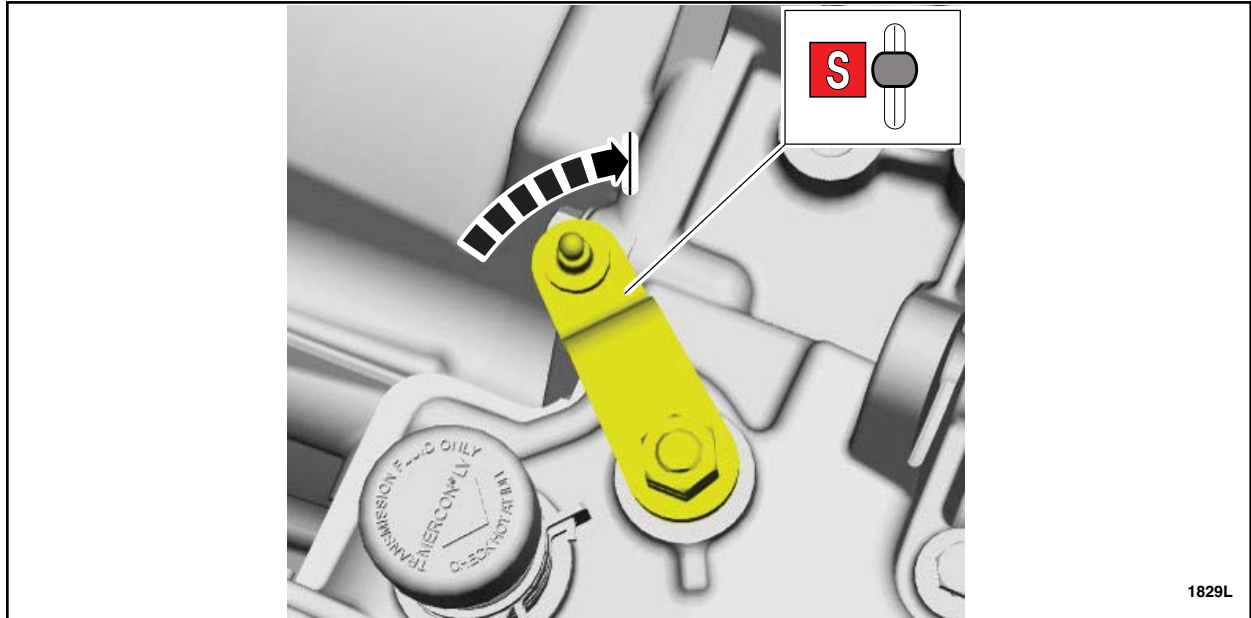

FIGURE 11
11. Rotate the manual control lever clockwise until it stops. See Figure 11.